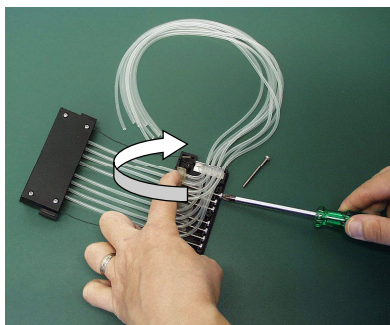

Figure 5-45. Fastening the calibration screws
10. Fasten the calibration screws from the previous tubing into their places using a hexagonal screwdriver (Figure 5-45).